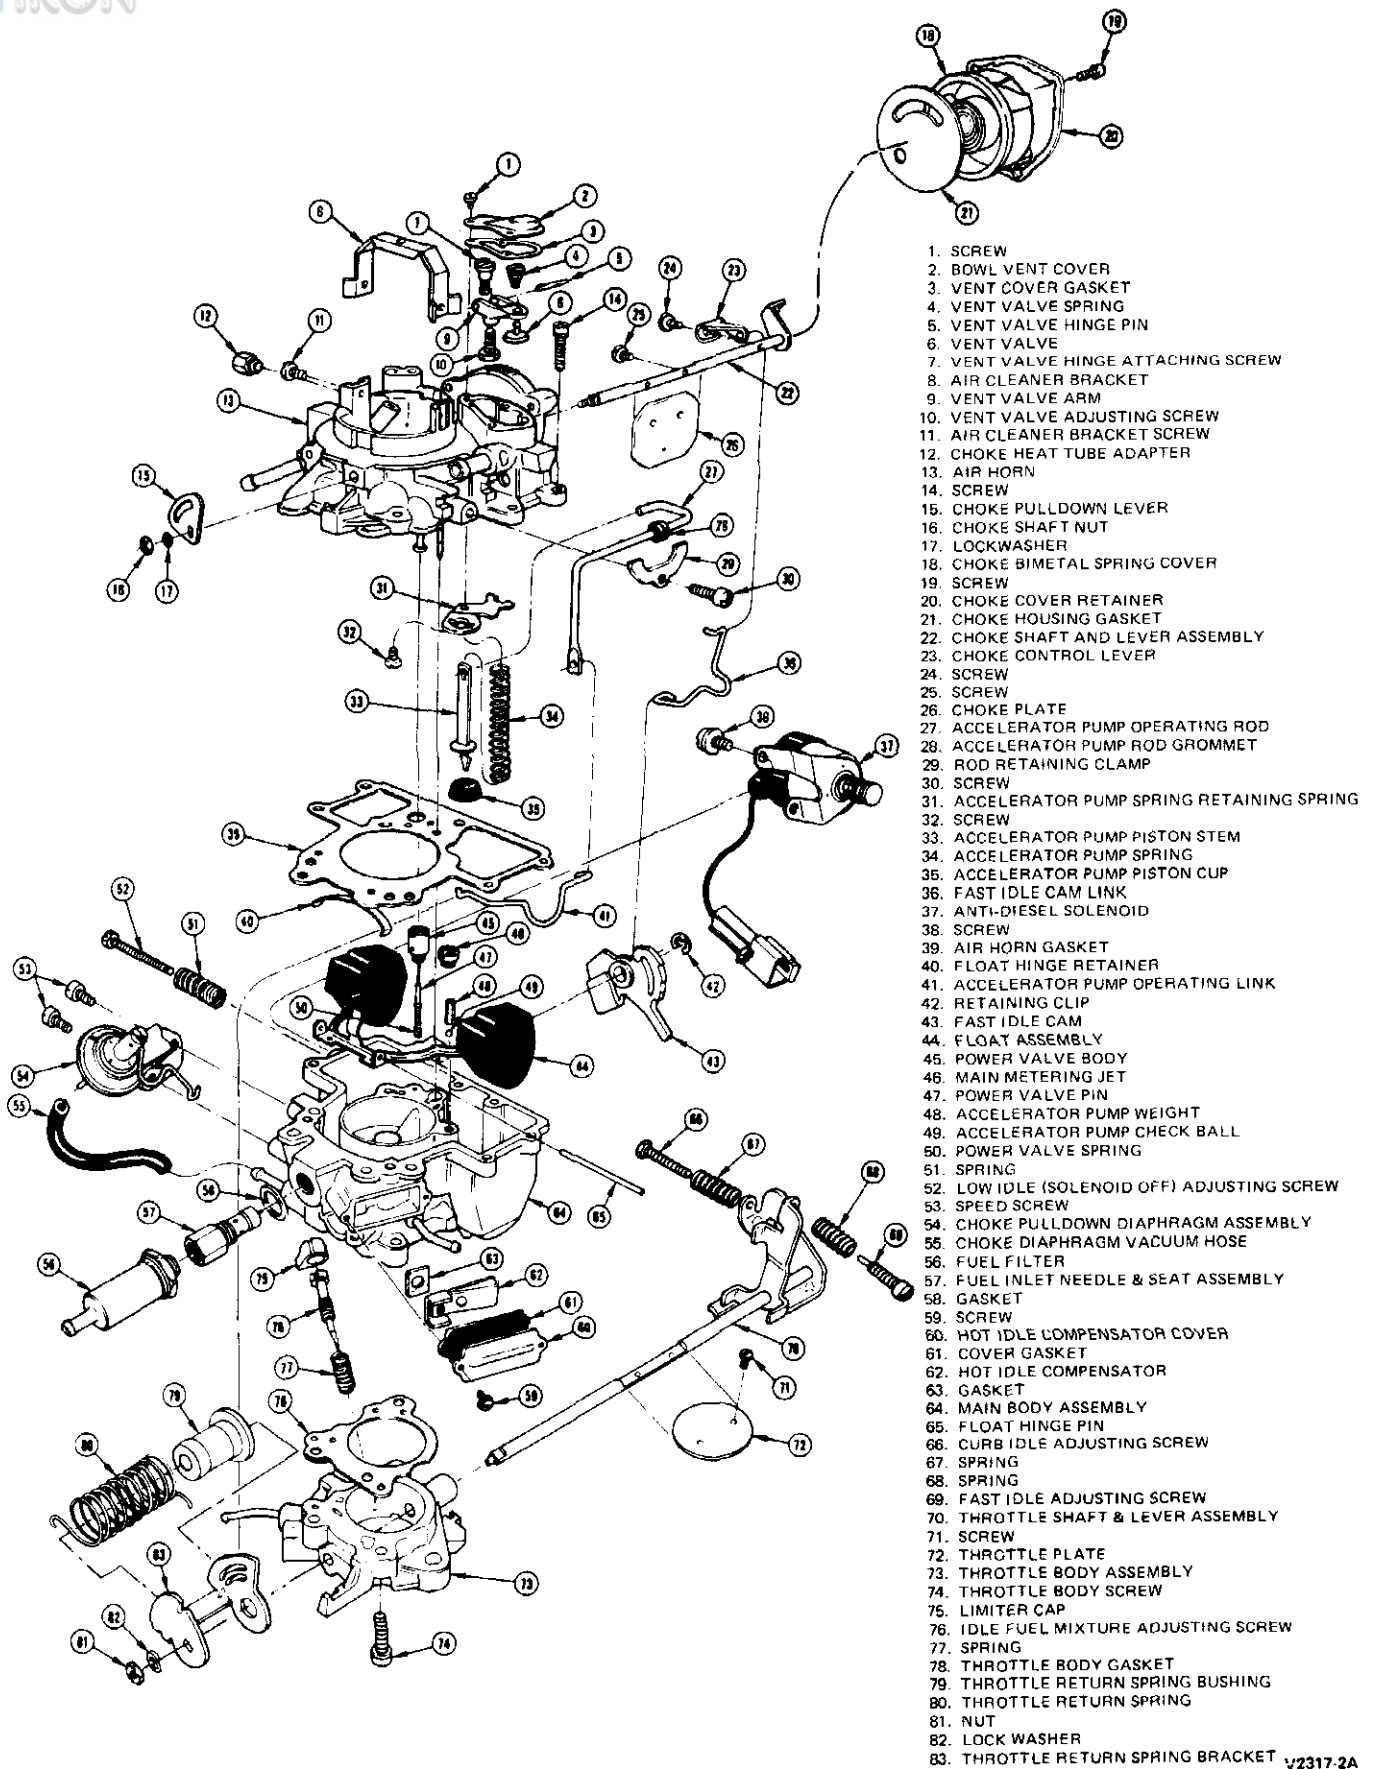

FIG. 18 Holley Model 1946 1-V Carburetor—Disassembled
The following procedure is for completely disassembling and reassembling the carburetor. For a carburetor overhaul, follow all the steps. To service only some of the components, follow only the applicable steps. To identify components, see Fig. 18: Disassembled View.
1. Turn the carburetor main body (Fig. 18) upside down and catch the accelerator pump discharge weight and ball as they fall from the channel. Retain the weight and ball for reassembly.